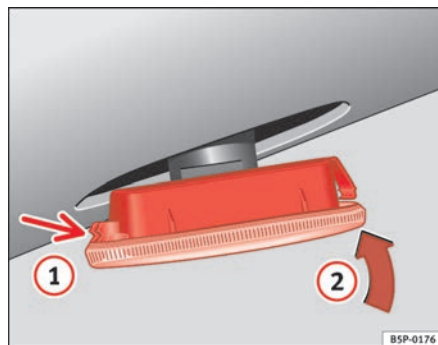

Fig. 152 Side indicators
- First fit the indicator in the opening in the chassis, fastening the tabs **1** ⇒ fig. 152, and then fit in the lamp as shown by the arrow **2** ⇒ fig. 152. ■